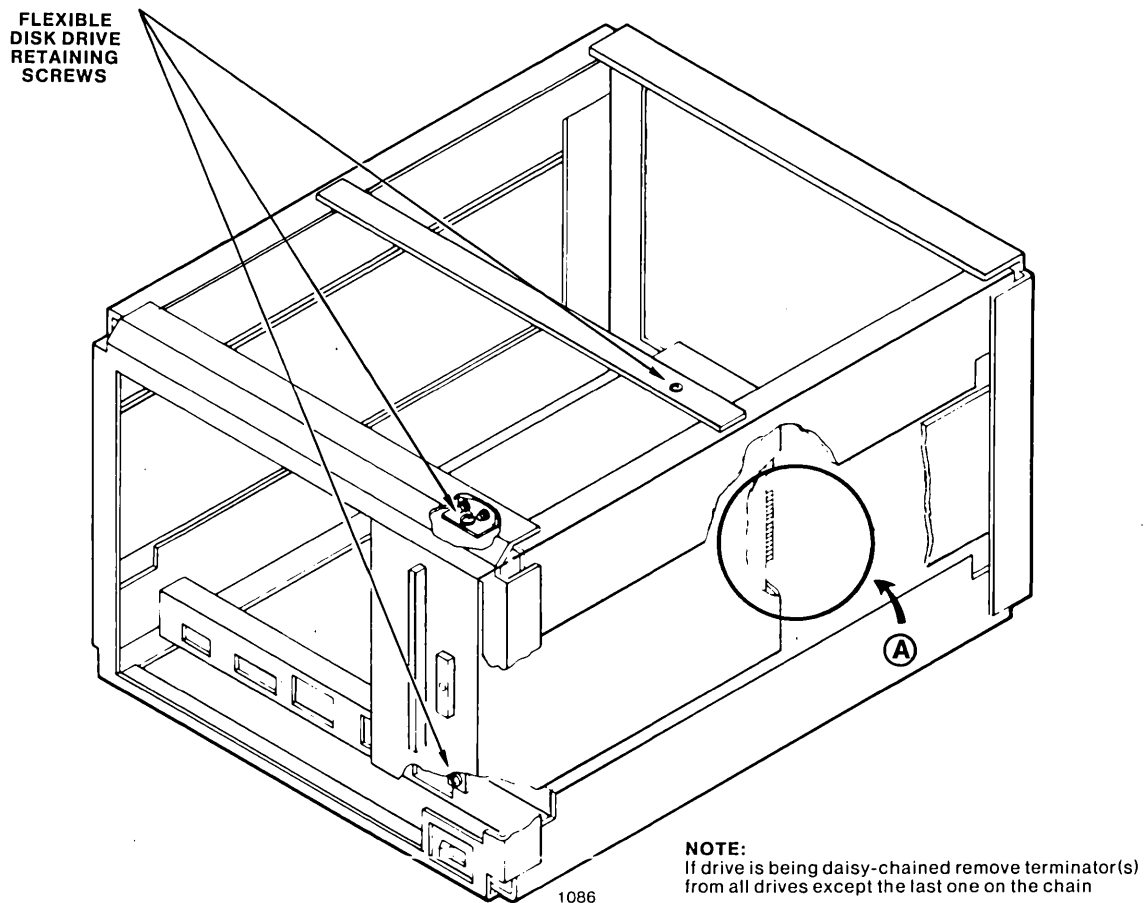

Figure B-1. Drive Select and Terminator Location
9. Remove the three screws securing the Winchester drive into the Peripheral Chassis and slide the drive forward to provide more room for working with the cables on the rear of the floppy drives. Refer to Figure B-1 for approximate locations of the cables.
10. Remove the terminator resistor pack installed at IC location 5E on the additional floppy disk drive (refer to Figure B-1 for an approximate location).
12. Assign an address to the additional floppy disk drive. This is done by positioning the drive address select jumpers located as shown in Figure B-1. There are four allowable addresses for a floppy drive in the System 86/380; one of them, device number 0, is used by the existing drive. These four addresses conform with the maximum limits for the daisychaining of drives. The possible drive address are as follows: